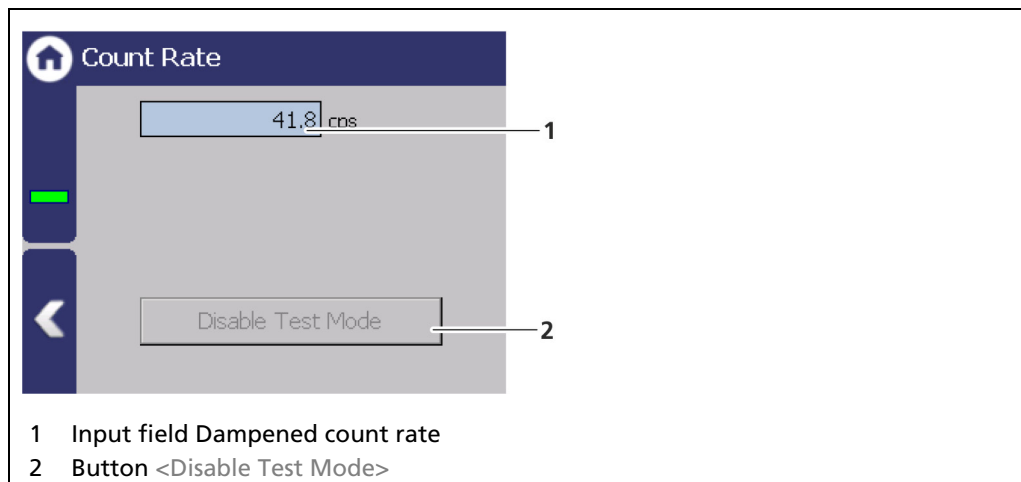

Fig. 100 Simulation Count Rate
1. Click on the dropdown field (Fig. 100, item 5) and select "FAILURE" or "ALARM" for the simulation.
2. Click on the <Disable Test Mode> button (Fig. 100, item 4) to stop the simulation.